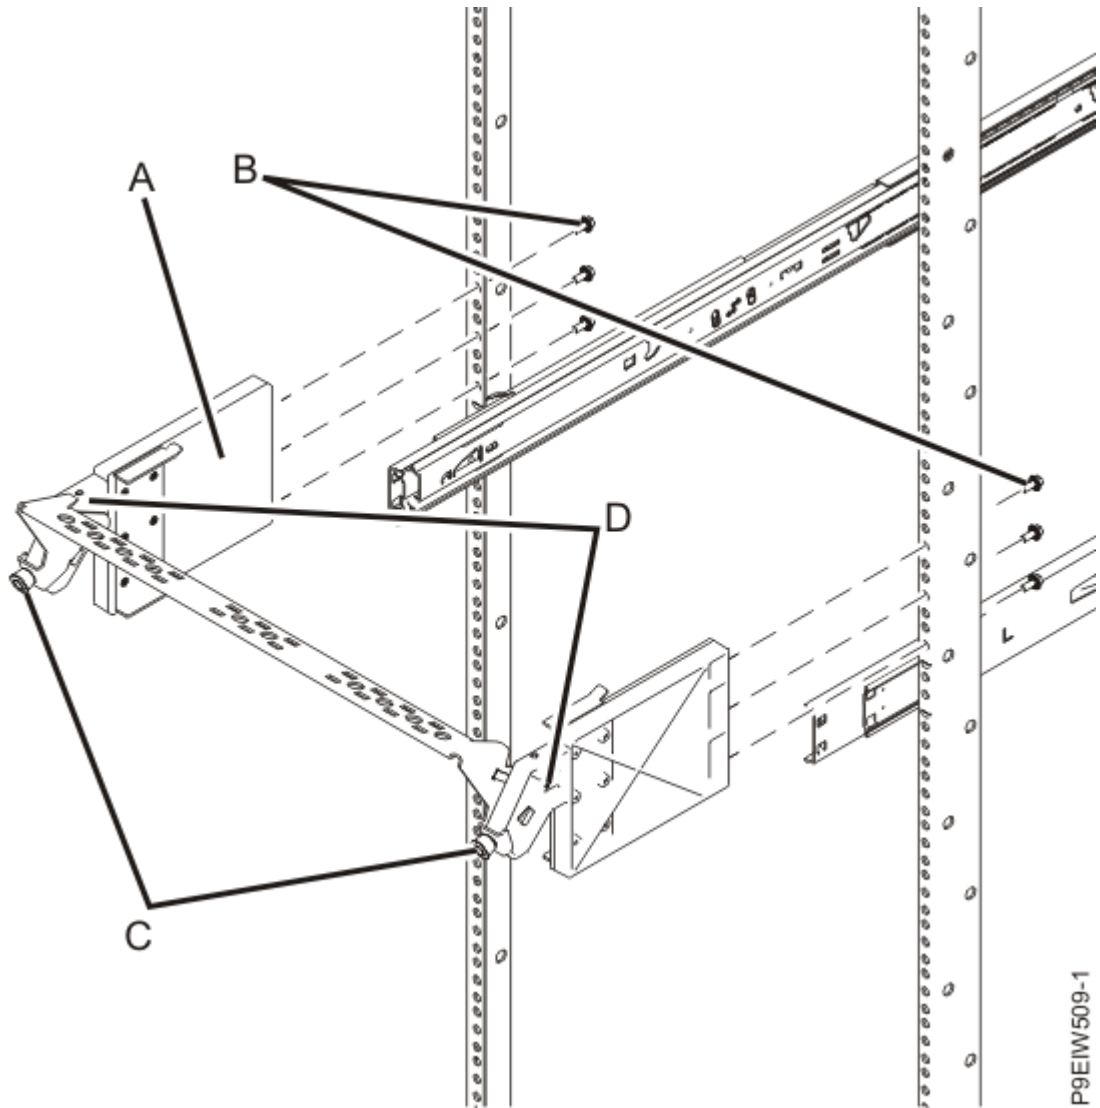

Figure 1. Attaching the cable management bracket to the rack
3. Assemble the cable management bracket by attaching the cable management bar to the cable management brackets, using two M3 screws (**D**), as shown in Figure 1 on page 7.
- b. From inside of the rack, install three screws (**B**) through the rack flanges and into the cable management bracket (**A**), as shown in Figure 1 on page 7.
5. Adjust the cable management bracket according to your needs by pulling the thumbscrews (**C**) and tilting the bracket, as shown in Figure 1 on page 7.